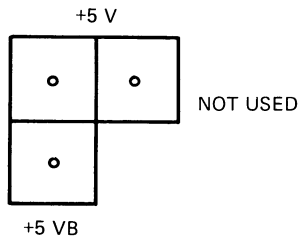

Figure 2-9 Battery Backup
2.2.8 Battery Backup (Figure 2-9)